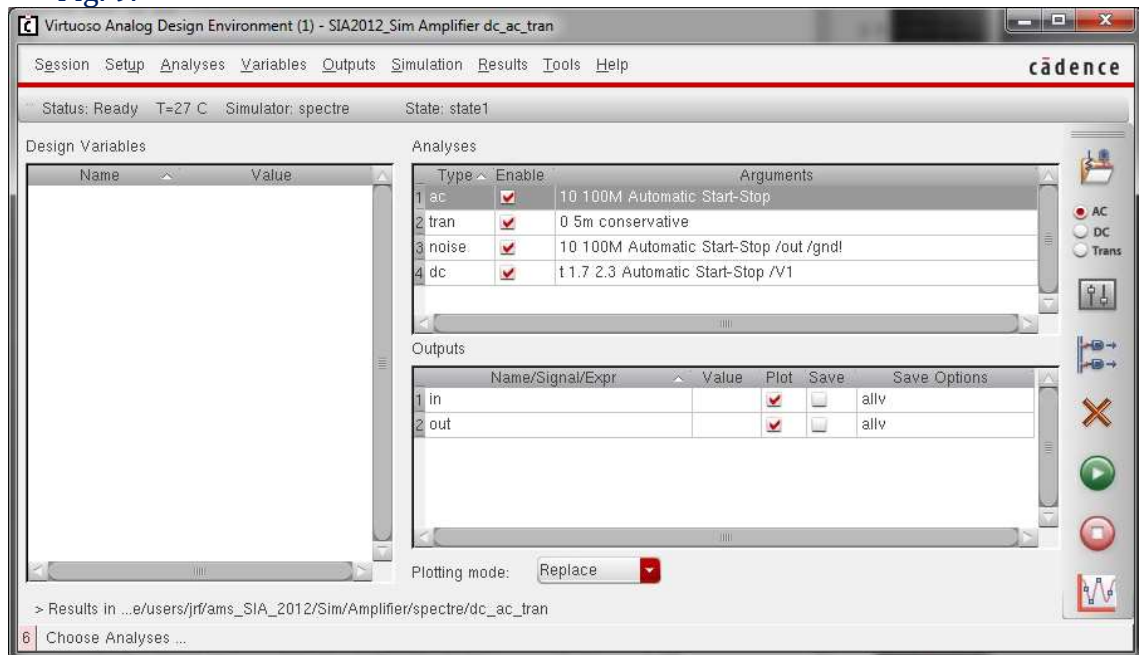

Fig. 8. Simulation Window
5. Simulate the circuit using the “Analog Environment” dialog window for DC, AC, transient and noise analysis in Fig. 8, according to the information in Fig. 9.